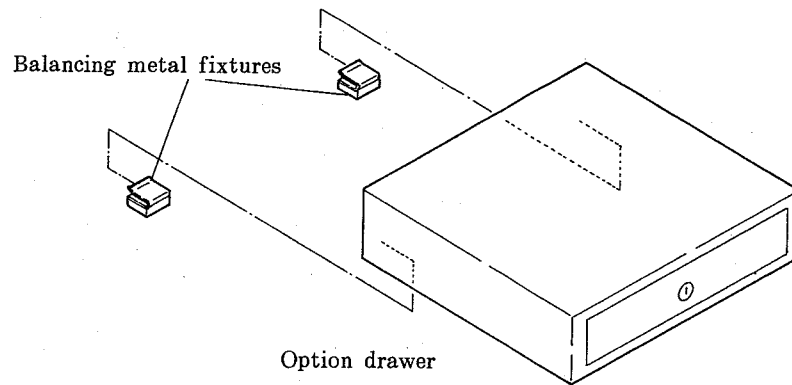

Fig.37
- (7) If there are any option boards removed in the procedure (3), restore them all.
- (8) Reverse the procedure (2) to attach the rear cover.
- (9) Attach the balancing metal fixtures (2 pcs.) to the rear of the option drawer. (See Fig.37.)